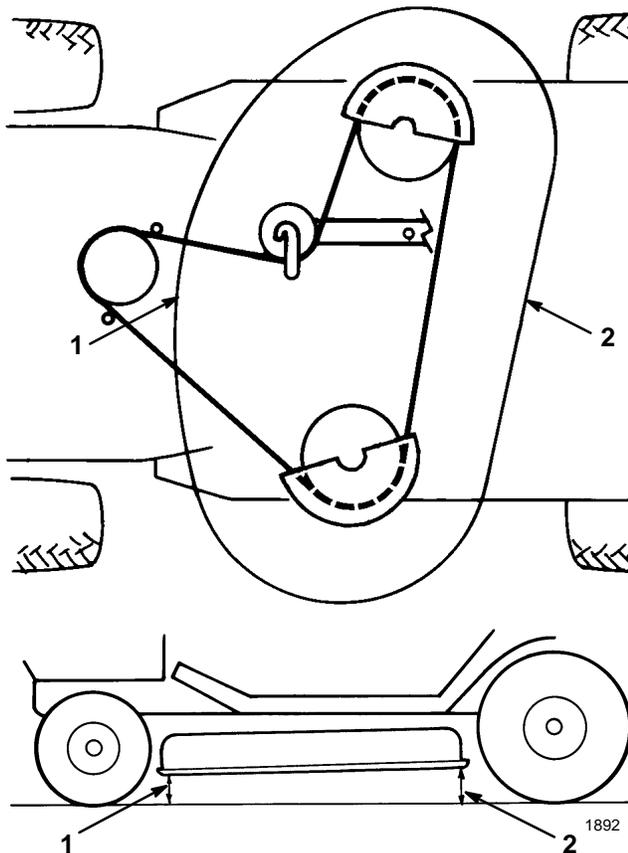

Figure 52
- Check the front to rear slope by measuring between the bottom of the mower (front center and rear center) and the flat surface (Fig. 52). If the front is not within a range of 1/8"–3/8" (3.5mm–10.5mm) lower than the rear, an adjustment is required.